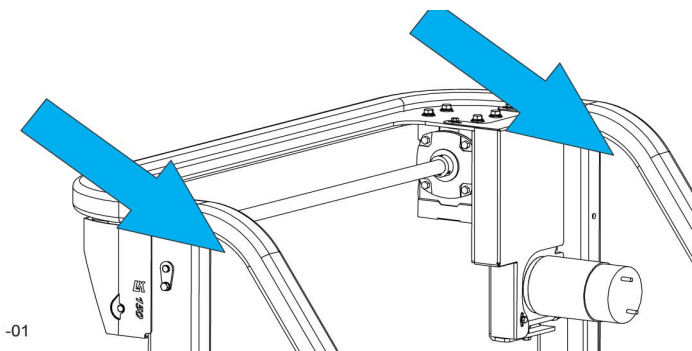

FIG. 3-4
3. Securely attach lifting straps to the top of the mast as shown in Figure 3-4.